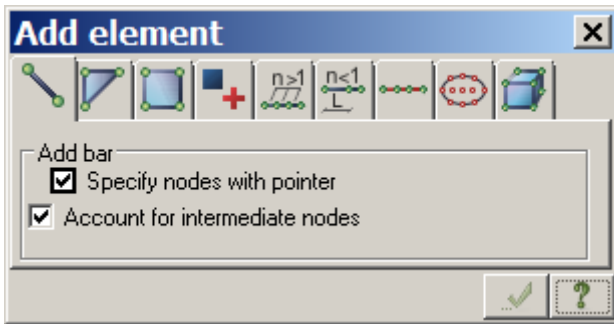

Figure 5.6 Add element dialog box
- ⇒ The **Add element** dialog box is presented with the **Add bar** tab open (see Fig.5.6).